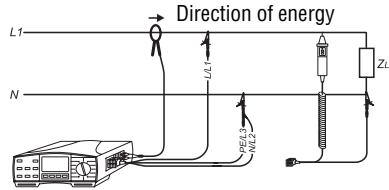

Figure 97: Connection of Test Leads and Clamp Adapter
- ▶ Connect the desired test lead to the 4-pole measurement connector (17) of the UNITEST EU-ROtest. Either use the 3-pole test lead or COMMANDER 2 (available as accessory Cat. No.1223). Also connect the desired clamp adapter to both measurement connectors C1 (14) and C2/P (15), please refer to Figure 97.
- ▶ Switch on the UNITEST EUROtest using the key 'ON/OFF'. Turn the rotary switch 'Measurement Function' to the function (6) Power/Energy.
- ▶ Connect the test leads and the clamp adapter to the UUT in accordance with Figure 97. Open the clamp adapter and surround the conductor to be measured at UUT. If desired, this connection information can directly be retrieved on the measurement instrument using the key 'HELP'. Repeated pressing of the key 'HELP' indicates the various options for connection.